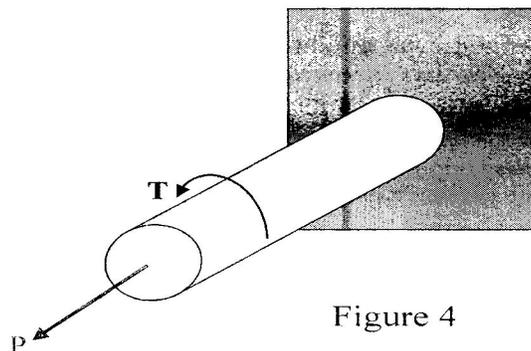

Figure 4
18. The  $39 \text{ mm}$  diameter shaft, shown in figure 4 is made of steel with yield strength  $\sigma_y=250 \text{ MPa}$ . Using maximum shearing criterion, determine the magnitude of the torque  $T$  for which yield occurs when  $P = 240 \text{ kN}$ .